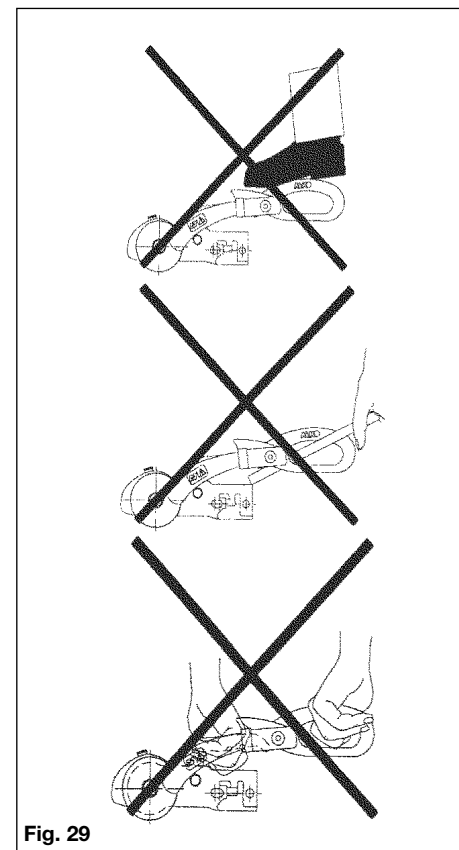

Fig. 29
2. Press stabiliser lever down by hand force only DO NOT use your foot or an extension bar, this will damage the components (Fig. 29).
3. When opening or closing the stabiliser lever, please ensure your hand does not touch the coupling handle - you may accidentally trap your fingers! (Fig. 29).